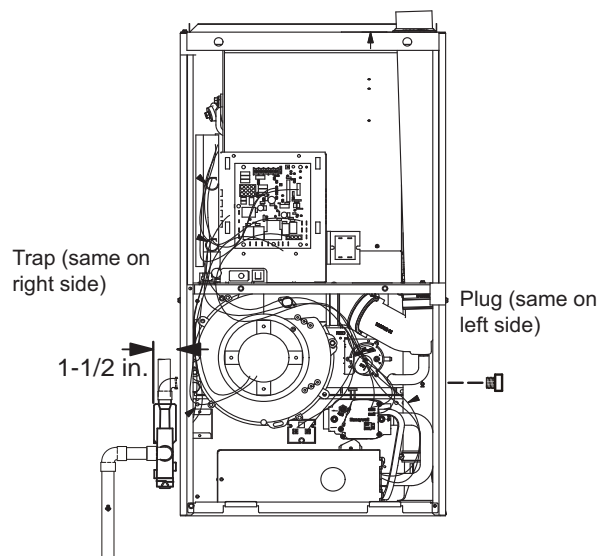
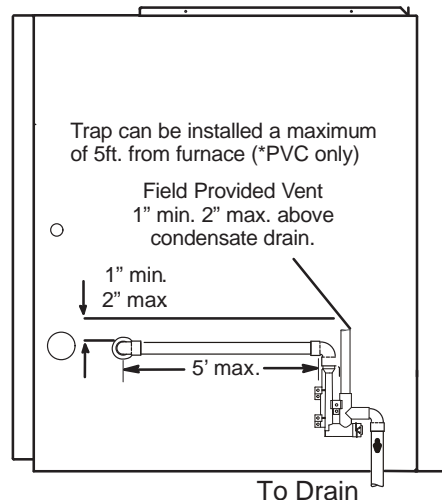

Figure 45. Condensate Trap and Plug Locations
Figure 46. Condensate Trap Location (shown with right side exit of condensation)
This unit is designed for either right- or left-side exit of condensate piping. Refer to Figure 45 and Figure 46 for condensate trap locations.
- 2 - Use a large flat head screw driver or a 1/2" drive socket extension and remove plug (**Figure 45**) from the cold end header box at the appropriate location on the side of the unit. Install provided 3/4 NPT street elbow fitting into cold end header box. Use Teflon tape or appropriate pipe dope.